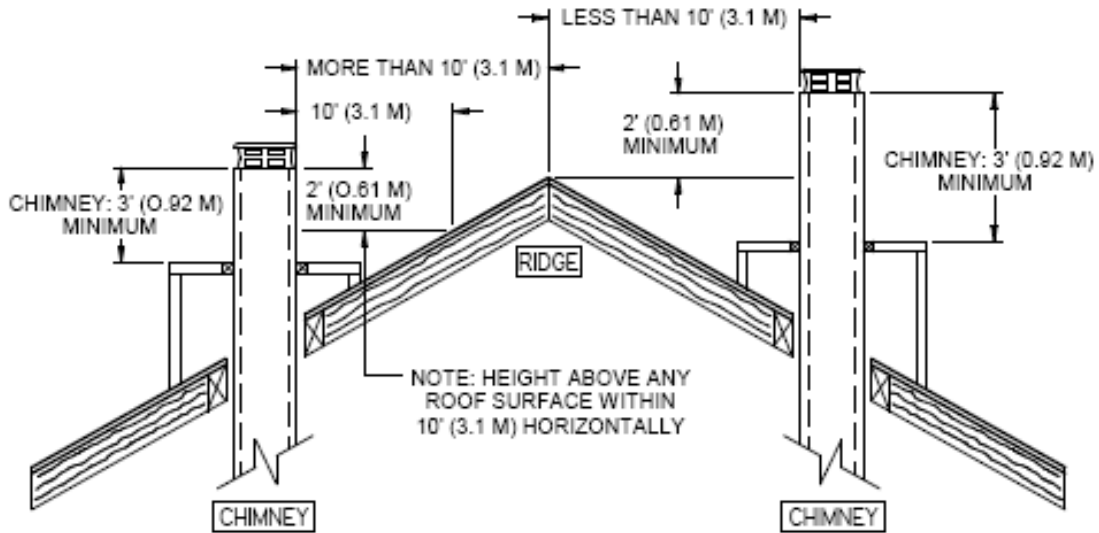

Figure 6c
17. When you build a chase enclosure for chimney sections above the roof, the chimney must extend at least 3 ft. (92 cm) above the chase enclosure and at least 2 ft. (61 cm) higher than any wall, roof or building within 10 ft. (3.1 m) of it. See Figure 6c and 6d to determine the configuration that applies to your roof (flat or sloped roof and the distance between the chimney and the highest point of the roof and/or the nearest chimney).